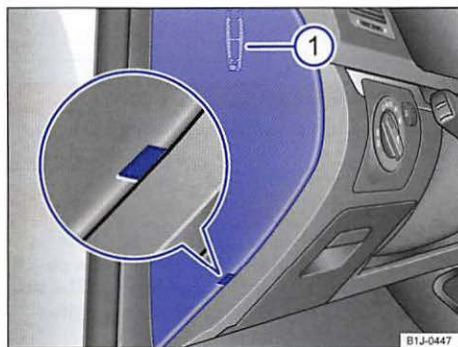

Fig. 165 On the driver side in the instrument panel: Fuse box cover with plastic tweezers ① on the inside of the cover.
- Insert a flat object, such as a screwdriver from the vehicle tool kit, into the opening $\Rightarrow$ fig. 165 (magnified view) and carefully lift off the cover.
- If needed, remove the plastic tweezers ⇒ fig. 165 ① from the fuse box cover.